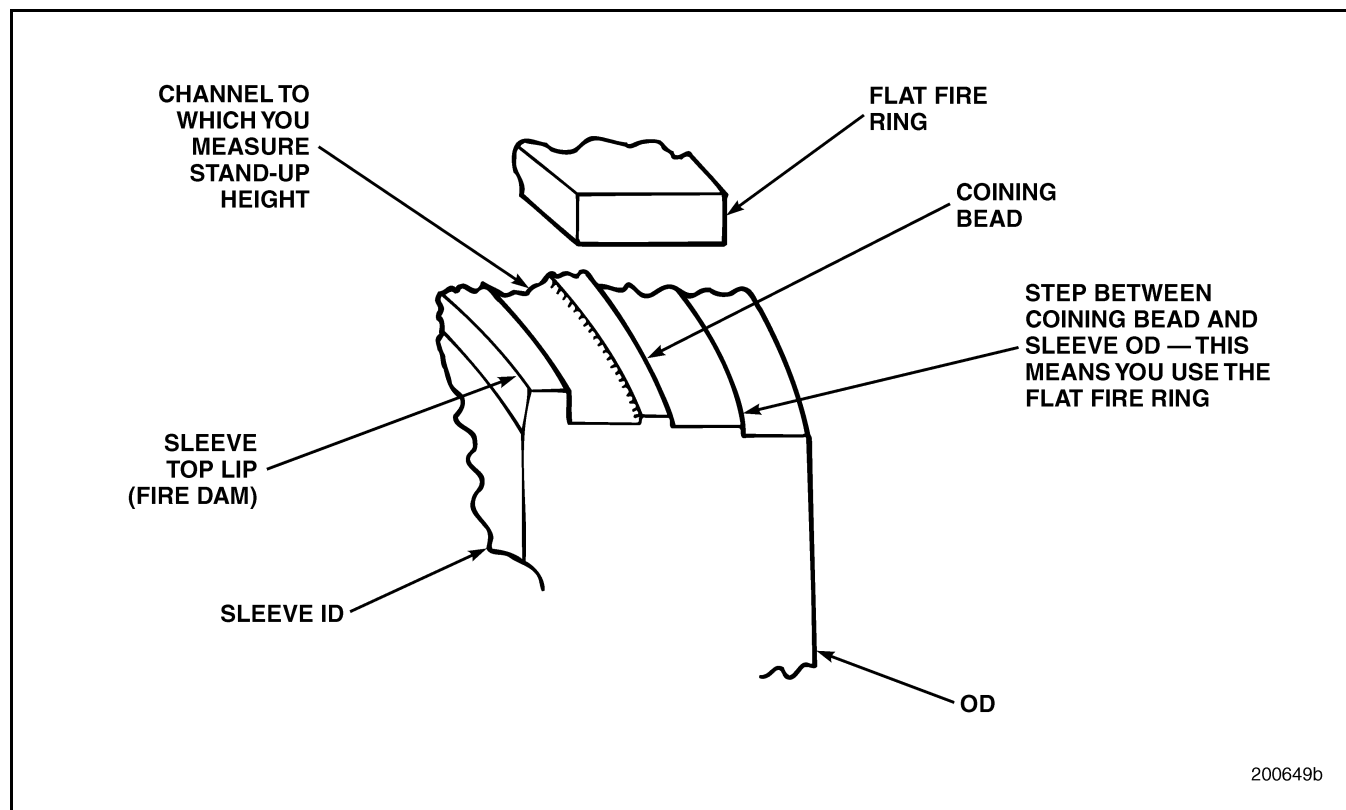

Figure 211 — Cylinder Sleeve/Fire Ring Configuration
- After the cylinder sleeve is fully seated, use depth gauge J 26948, or equivalent, to check the flange height-above-deck dimensions. The specified dimension is 0.023–0.029 inch (0.584–0.737 mm). The measurement should be taken in the channel between the sleeve top lip (fire dam) and the coining bead. Refer to Figure 211.